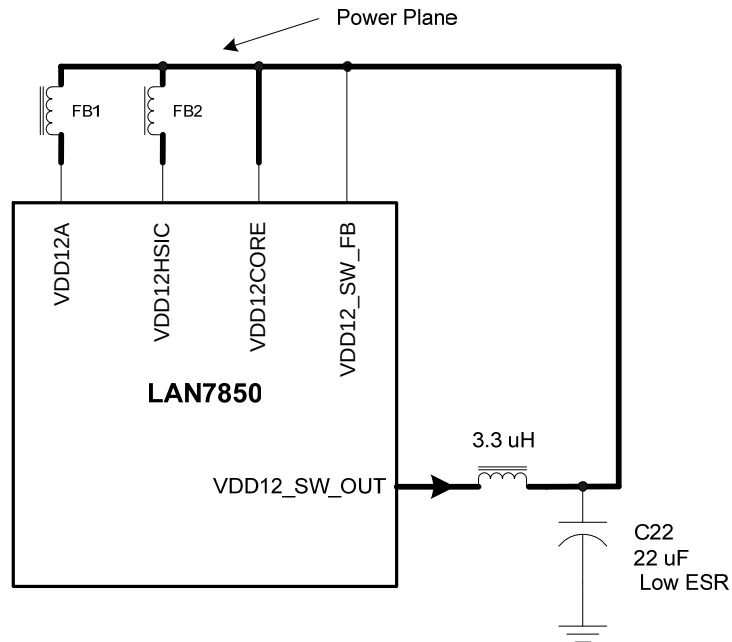

Figure 4 - LAN7850 +1.2V Power Connections
6. VDD12CORE (pins 26 & 48), these two core input power supply pins may be powered from the internal +1.2V switching regulator. In this application, these two pins should be connected directly to the 3.3 uH output inductor of the +1.2V switching regulator of the LAN7850. See figure 4 below for more details. These two pins can also be supplied from an external +1.2V power supply. In this application, the internal +1.2V switching regulator can be disabled.
8. VDD12A (pins 33 & 52), these two pins supply power to the analog blocks (Gigabit Ethernet Phy & the USB PLL / AFE section) of the LAN7850 from the internal +1.2V switching regulator through a ferrite bead. Be sure to place bulk capacitance on each side of the ferrite bead. A 1.0 uF, low ESR cap is required on the pin 33 & 52 side of the ferrite bead. In this application, the ferrite bead should be connected to the 3.3 uH output inductor of the +1.2V switching regulator of the LAN7850. See figure 4 below for more details. These two pins can also be supplied from an external +1.2V power supply. In this application, the internal +1.2V switching regulator can be disabled.
10. VDD12HSIC (pin 34), this pin supplies power to the HSIC section of the device from the internal +1.2V switching regulator through a ferrite bead. Be sure to place bulk capacitance on each side of the ferrite bead. In this application, the ferrite bead should be connected to the 3.3 uH output inductor of the LAN7850. See figure 4 below for more details. This pin can also be supplied from an external +1.2V power supply. In this application, the internal +1.2V switching regulator can be disabled.